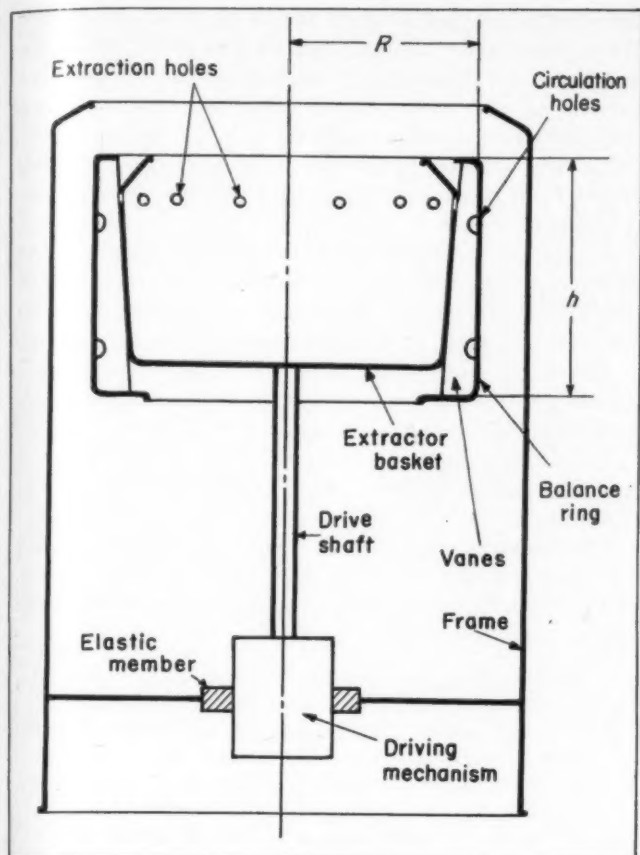

Fig. 6—Diagram of modified Leblanc balancer. Extracted liquid serves as balancing medium. Below critical speed minimum amount of liquid occupies balance ring
**MODIFIED LEBLANC BALANCER:** Equation 13 suggests a modification of the Leblanc balancer. This modification† is simple, effective and inexpensive to manufacture. It consists simply of a flanged annular ring surrounding and attached to the basket in such a position that the extracted liquid enters the inside of this ring. This is shown diagrammatically in Fig. 6 in its simplest form.
vanes, as shown in Fig. 6. The vanes are perforated at their outer edges by holes to permit the balancing liquid to circulate circumferentially. The basket is here shown slightly tapered to conform more nearly to the free surface of the liquid in the balance ring and thus increase the effectiveness of the device at the lower speeds.